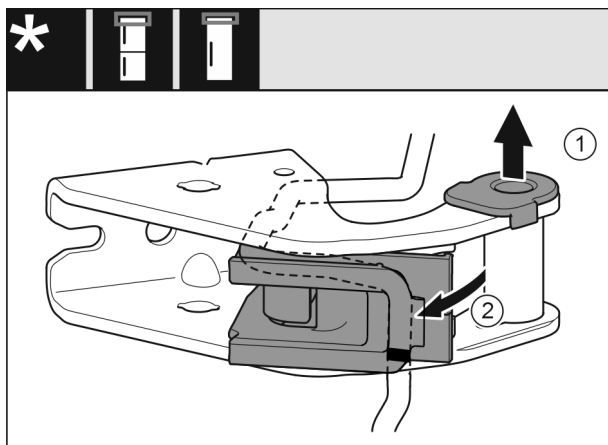

Fig. 24
- Pull the bearing bush out of the guide. Fig. 24 (1)
- Swing the cable holder out. Fig. 24 (2)